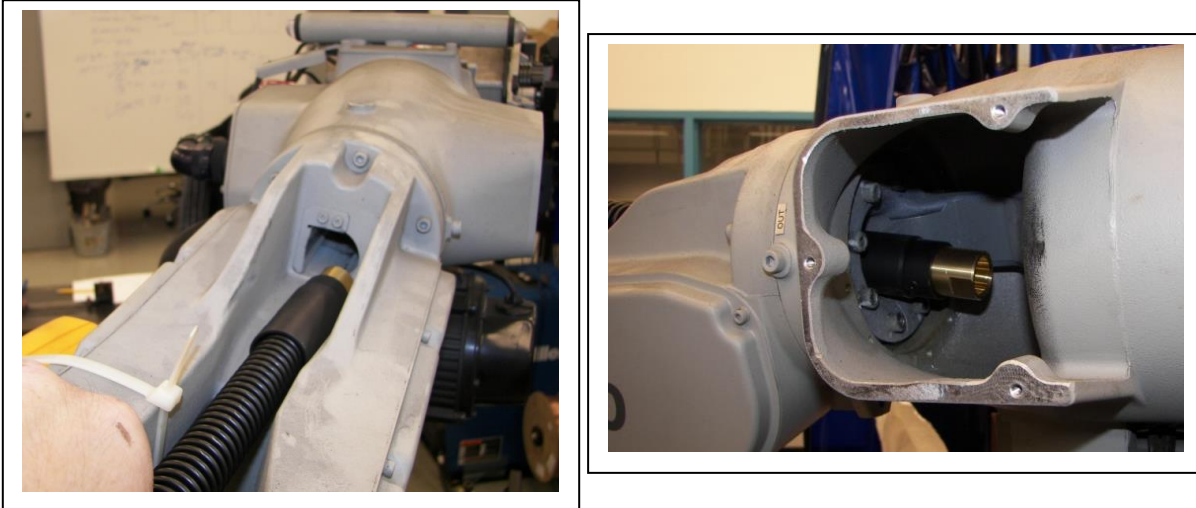

Figure 8 – Insert the back-end of the LSR unicable through the hole in the casting of the upper arm.
- Install the back-end of the LSR Unicable through the casting of the robot (Figure 8)